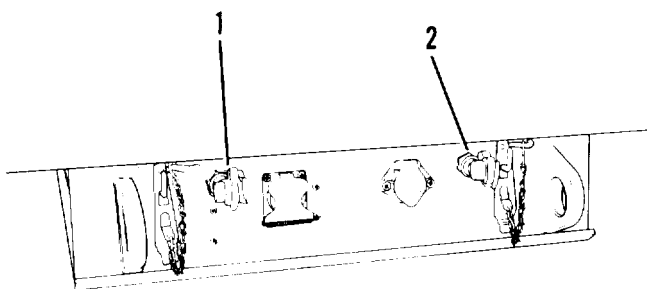

Figure 2-18. Connecting intervehicular hoses
- (1) Connect the two air hoses marked SERVICE (1, figure 2-18) and EMERGENCY (2) on towing vehicle to corresponding air hose couplings on the semitrailer.
- (2) Open air lines shutoff valves on towing vehicle.
- (3) If no air leakage is detected, apply the brakes on the semitrailer from the towing vehicle.